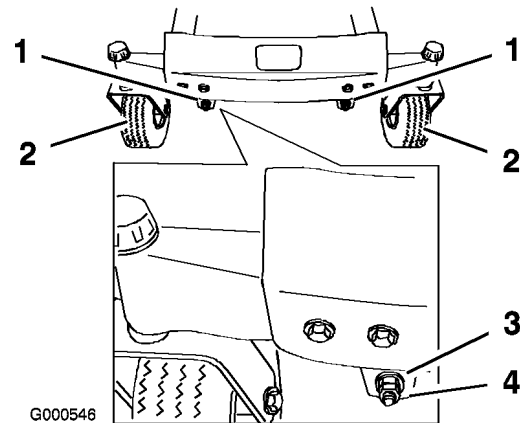
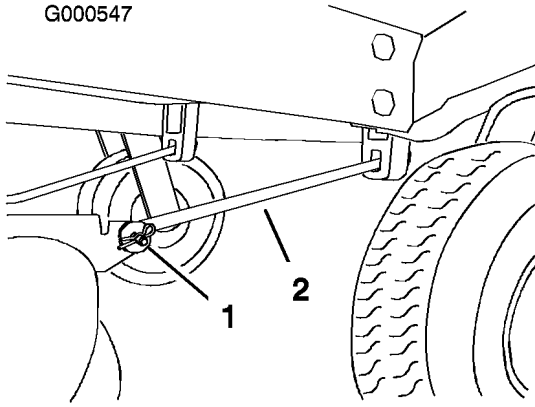

Figure 46
Figure 47
11. To adjust the front-to-rear blade slope, remove the locknuts and then rotate the adjustment nuts in the front of the mower (Figure 46).
adjusting the nuts until the front blade tip is 1/16-5/16 inch (1.6-7.9 mm) lower than the rear blade tip (Figure 46).
Note: After adjusting the adjustment nuts, make sure there is no slack in either support rod (Figure 47). Tighten either one to remove the slack (Figure 46).
4. Remove the hairpin cotter and clevis pin from the front support rod on each side of the mower (Figure 47).
7. Attach the front support rods to the machine with the clevis pins and hairpin cotters (Figure 47).